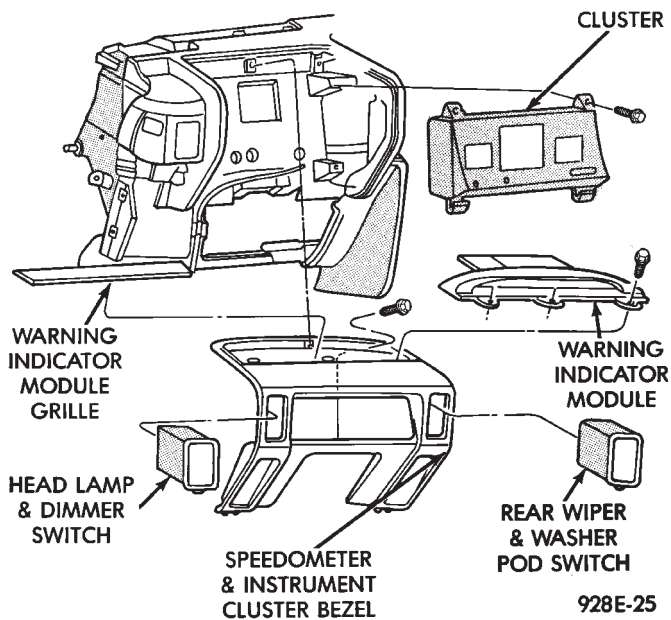

Fig. 9 Instrument Cluster Bezel
- (4) Remove instrument cluster bezel five screws and remove bezel. Disconnect POD switch wire connectors (Fig. 9).
- (5) Remove POD switches by unsnapping from the back side of the cluster bezel.
- (6) For installation reverse above procedures.